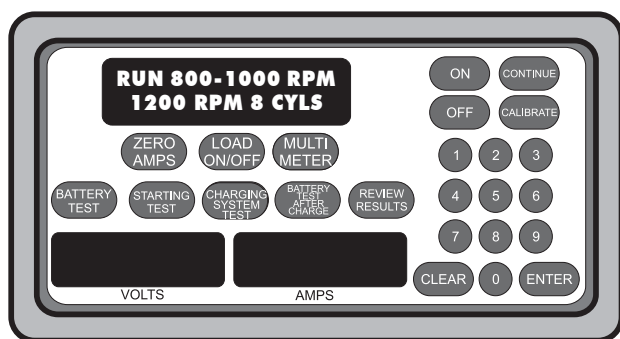

Figure 19
- After the idle test, the display may read "RUN 800-1000 RPM" (see Figure 19). This message appears if the RPM was not high enough, or if conditions were not right during the diode reading. For the computer to properly read the diode condition, the RPM must be between 800 and 1000. Raise the RPM to between 800 and 1000 and hold it.